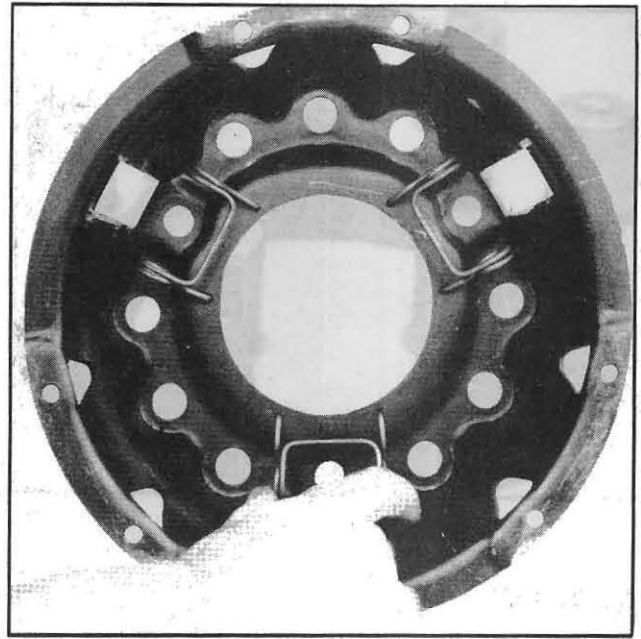

Fig. 128
3. Assemble the anti-rattle springs in the cover as shown in Fig.128.